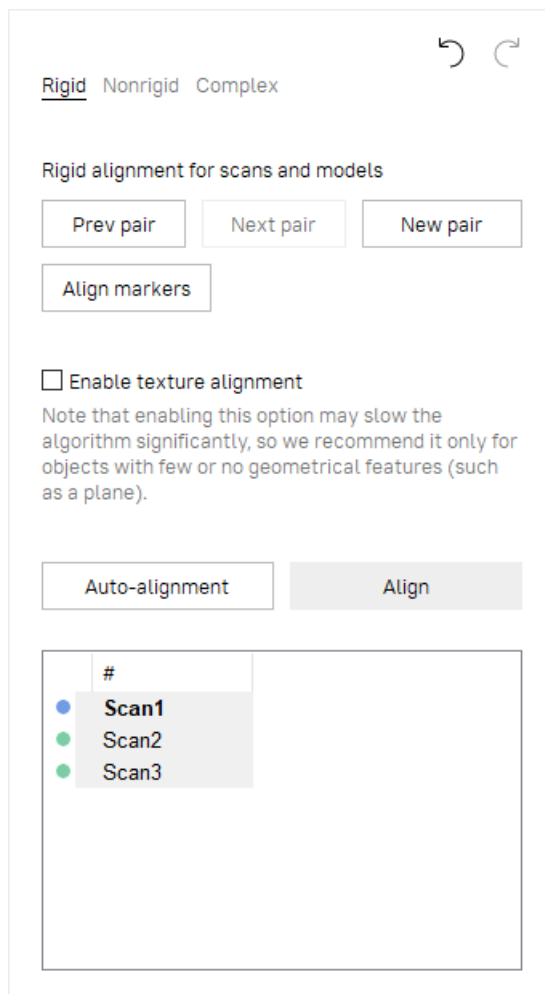

Figure 81: *Align* panel: *Rigid* tab.
1. Make sure the *Rigid* tab is selected in the *Align* panel (see Figure 81). The tool will automatically select all scans. Clear unnecessary selections by using the **Ctrl** key (see *Alignment*).
1. Make sure the *Rigid* tab is selected (see Figure 81).